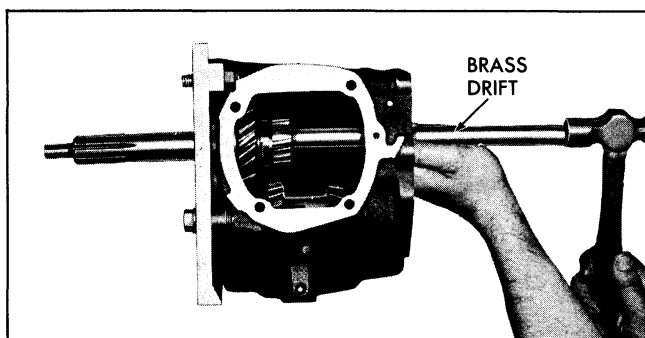

Fig. 7-32 Installation of Main Drive (Clutch) Gear Assembly
5. From inside case, push main drive (clutch) gear assembly through opening in front face of case and, using a brass drift, tap the clutch gear assembly until the clutch gear bearing locating ring groove is outside front of case. Assembly must be driven straight to prevent damage to bearing (Fig. 7-32).